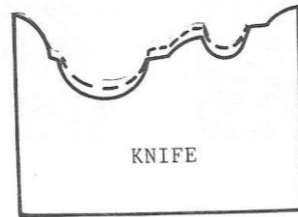

Figure 14
5. Adjust the pilot by means of the pilot handwheel, take successive cuts until profile is completed (Fig. 14);